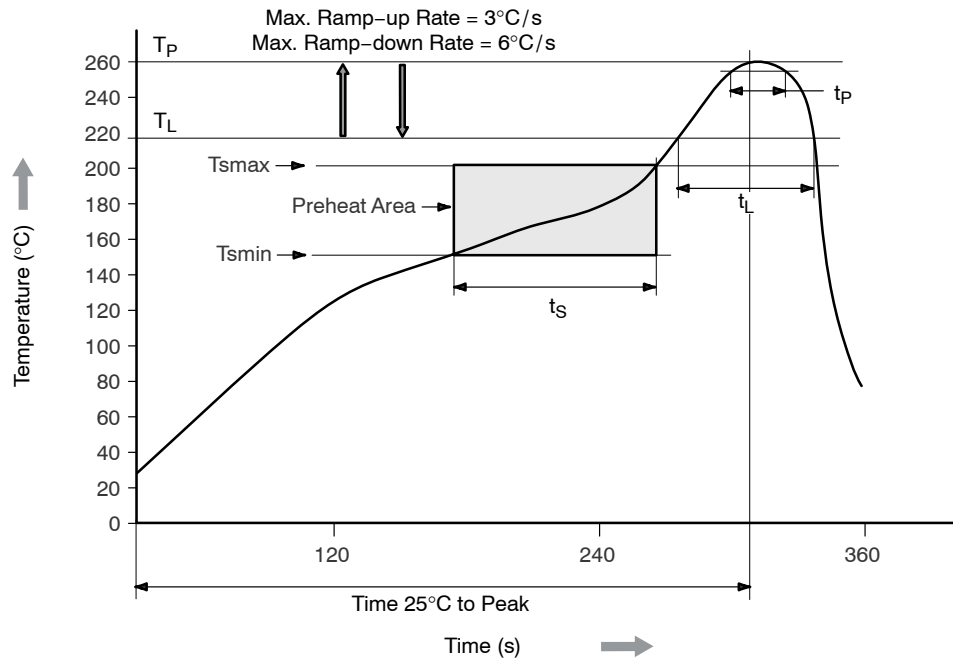

**Figure 11. Test Circuit for Common Mode Transient Immunity and Typical Waveforms**
8. Common mode transient immunity in logic high level is the maximum tolerable (positive)  $dV_{cm}/dt$  on the leading edge of the common mode pulse signal  $V_{CM}$ , to assure that the output will remain in a logic high state (i.e.,  $V_O > 2.0\text{ V}$ ). Common mode transient immunity in logic low level is the maximum tolerable (negative)  $dV_{cm}/dt$  on the trailing edge of the common mode pulse signal,  $V_{CM}$ , to assure that the output will remain in a logic low state (i.e.,  $V_O < 0.8\text{ V}$ ). Refer to Fig. 11.